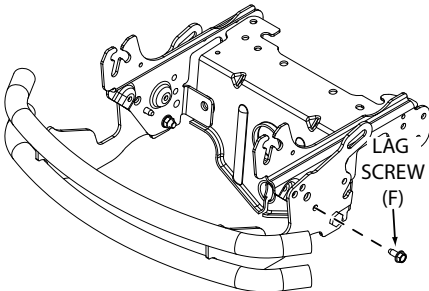

FIGURE 6
Step 6: (Fig. 6)
1. Assemble a 5/16 x 3/4" lag screw (F) to the bumper and tractor frame.